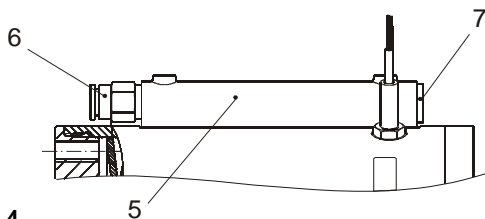

Fig. 4
1. Screw out the plug-in fitting (6) and the screw plug (7) using a hexagon socket wrench.
2. Swap the positions of the plug-in fitting (6) and the screw plug (7) (Fig. 4).